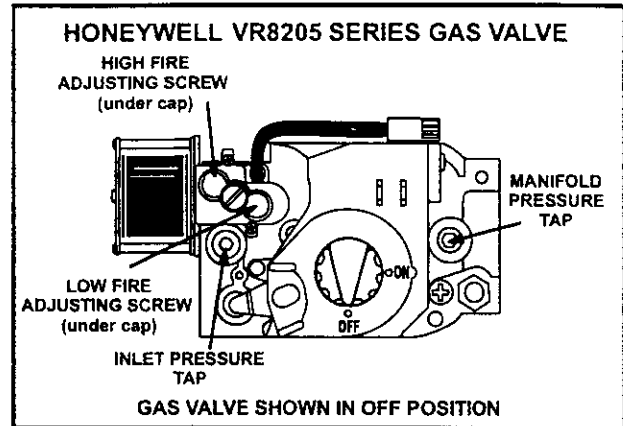

FIGURE 34
- 6 - Turn gas valve knob to **OFF** position. See figure 34.
- 7 - Wait five (5) minutes to clear out any gas. If you then smell gas, **STOP!** Immediately call your gas supplier from a neighbor's phone. Follow the gas supplier's instructions. If you do not smell gas go to next step.
- 2 - After line pressure has been checked and adjusted, check high heat regulator pressure. See figure 34 for gas pressure adjustment screw location. High heat manifold pressure is given in table 6.